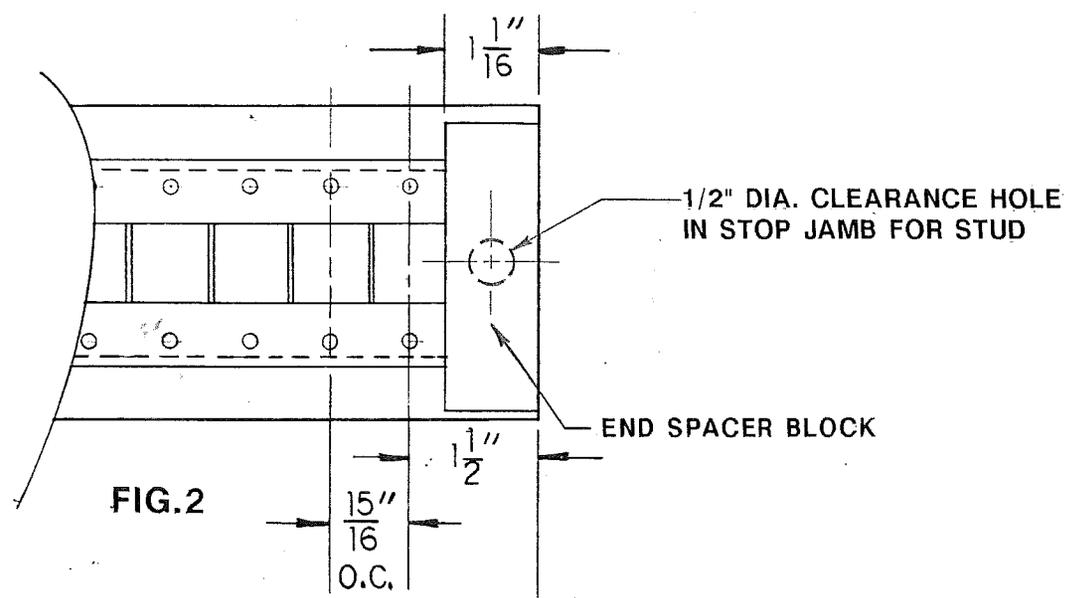

FIG. 2
2. Carefully measure the height and width of the assembly to determine the size of the cutout that must be made in your stop rail panel. Drill a 1/2" diameter hole as shown in *Figure 2* to allow clearance for the studs and nuts on each of the end spacer blocks.